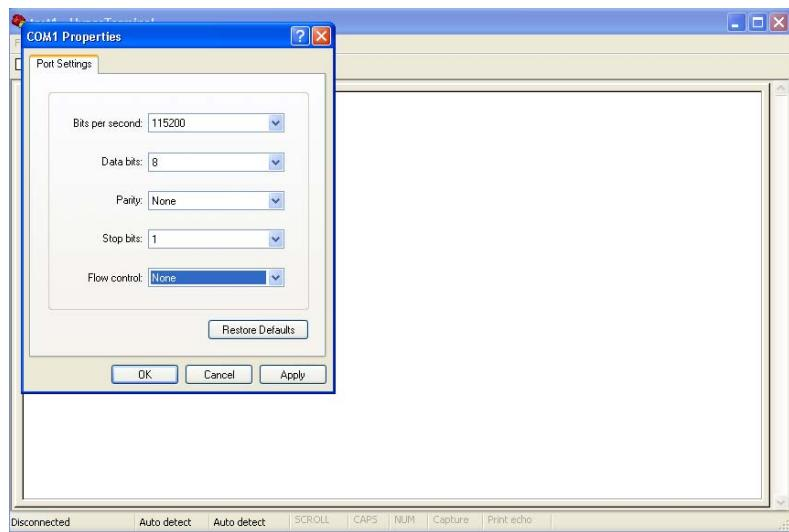

Figure 118: Specifying the null-modem port properties
7. Set the properties of the null-modem port to the values shown in Figure 118: